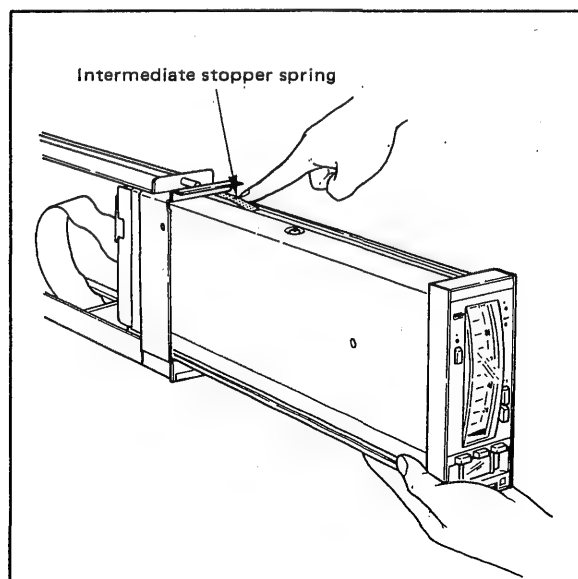

Figure 5-2-2. Removing Internal Assembly.
- (2) To remove the internal assembly from the housing, push down the intermediate stopper spring while pulling the assembly out from the housing as shown in Figure 5-2-2.